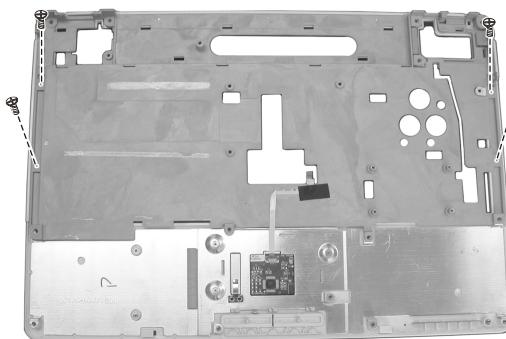

Figure 2-32 Free the IO bracket
3. Remove the four screws and free the IO bracket. (Figure 2-32)